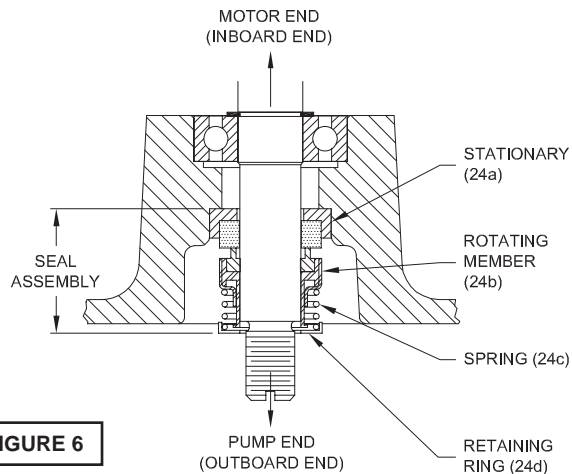
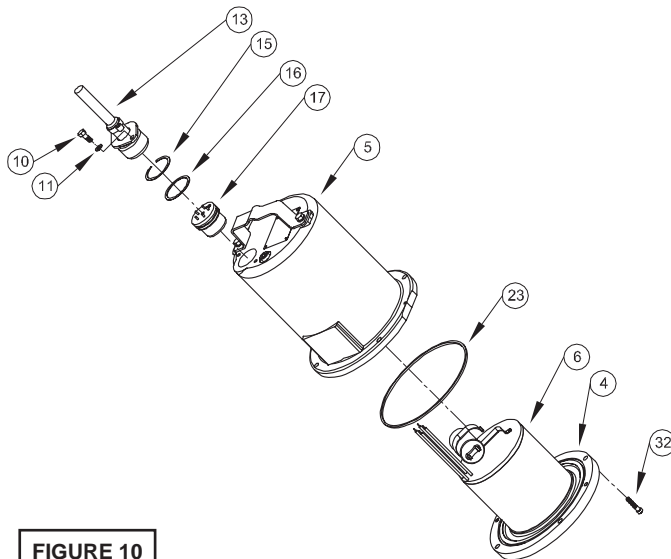

FIGURE 6
**FIGURE 9**
To expose shaft seal (24) for examination, disassemble volute and impeller as outlined in paragraph F-2.1. If further repair is required, remove retaining ring (24d), spring (24c) and rotating member (24b) from shaft (see Figures 6 & 7). Examine all seal parts and especially contact faces. Inspect seal for signs of wear such as uneven wear pattern on stationary members, chips and scratches on either seal face. **DO NOT** interchange seal components, replace the entire shaft seal (24). If replacing seal, remove stationary (24a) by prying out with flat screwdriver.
Clean and oil seal cavities in seal plate (4). Lightly oil (**DO NOT use grease**) outer surface of stationary member (24a). Press stationary member (24a) firmly into seal plate (4), using a seal pusher (see parts list - seal tool kit). Nothing but the seal pusher is to come in contact with seal face (see Fig 8). Make sure the stationary member is in straight. Slide a bullet (see parts list - seal tool kit) over motor shaft. Lightly oil (**DO NOT use grease**) shaft, bullet and inner surface of bellows on rotating member (24b) see Figure 9. With lapped surface of rotating member (24b) facing inward toward stationary member, slide rotating member over bullet and onto shaft, using seal pusher, until lapped faces of (24a) and (24b) are together (see Figure 6).